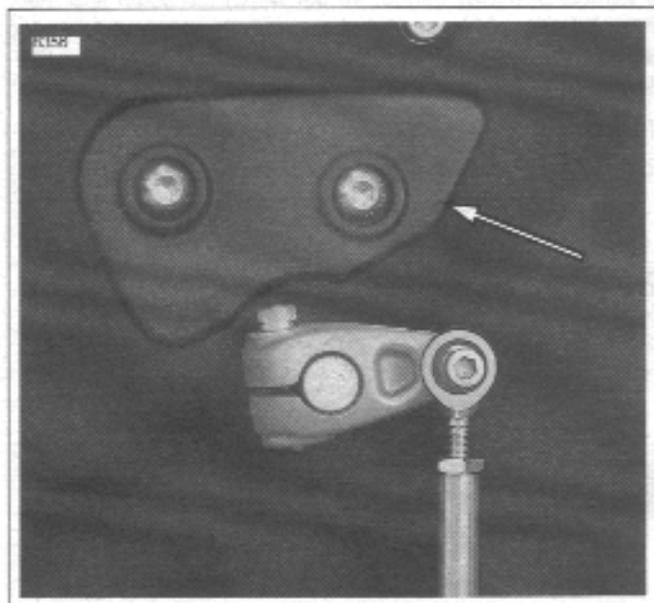

Figure 1-28. Primary Chain Inspection Cover
See Figure 1-28. Measure primary chain tension through the inspection cover opening. Adjust primary chains not meeting vertical free play specifications.
1. See Figure 1-28. Remove two fasteners with captive washers and primary chain inspection cover with gasket from primary cover.
4. See Figure 1-28. Install primary chain inspection cover and gasket to primary cover using two fasteners with captive washers. Tighten fasteners to 40-60 in-lbs (5-7 Nm).